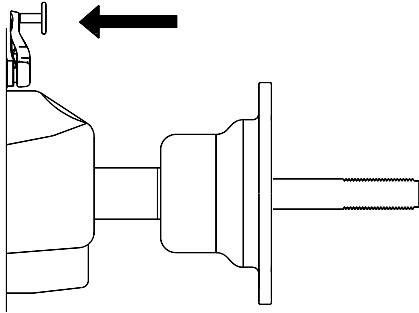

Figure 35
1. Make sure the Rim Offset Gauge Arm is at home position and no wheel is mounted to the shaft as shown in Figure 35.